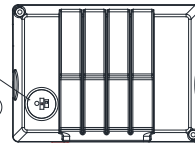
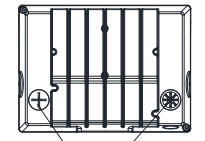

figure 13
figure 12
1. Open the metal plug and plastic plug counterclockwise with a screw driver (figure 12) , then slide the switch up and down to adjust the power controller,CCT controller or photocell controller in your demand. (figure 13,14,16)